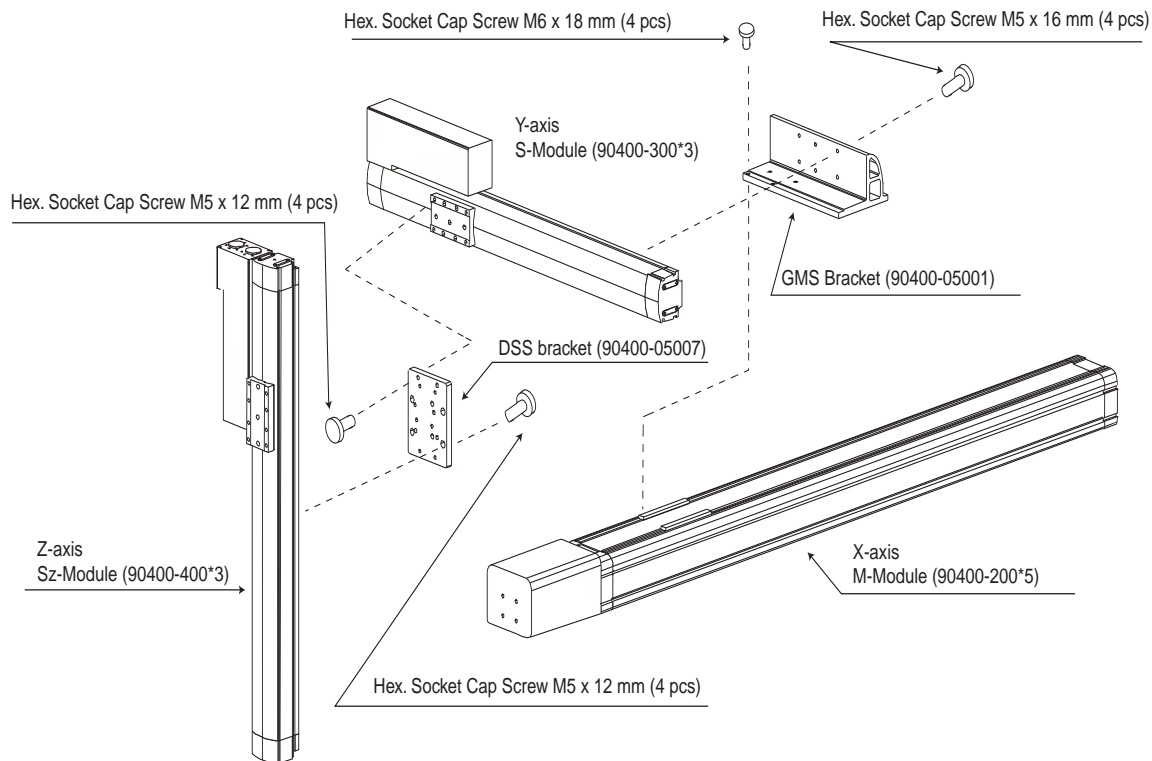

Figure 5-8. P-2 Type Mechanical Assembly
5. Mate the Y-axis to combining bracket by aligning the motor-side pin holes on the Y-axis module to the pins on the side of the bracket (these holes are on the side opposite the sliders). Carefully mate the pins and pin holes to avoid damaging the pins. Install the mounting bolts (see Figure 5-8, and refer to Table 3-3 for the mounting bolt specifications).
7. Mate the Z-axis and combining bracket by aligning the pin holes on the Y-axis module to the pins on the side of the Z-axis bracket. Carefully mate the pins and pin holes to avoid damaging the pins. Install the mounting bolts (see Figure 5-8, and refer to Table 3-3 for the mounting bolt specifications).